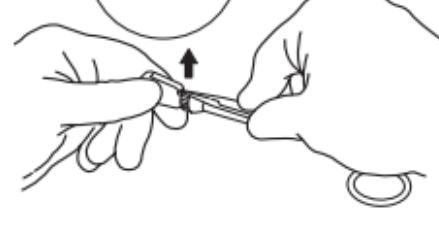

Fig. 4
- b. Pry upward until the locking cam lever is free. (**Fig. 4**)